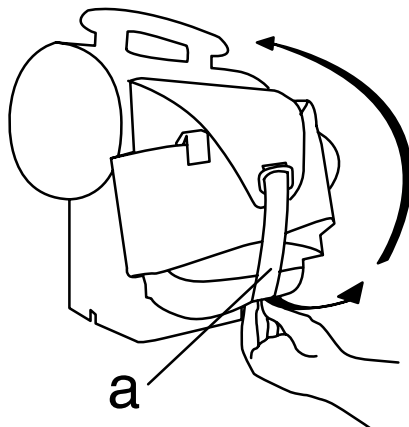

FIG. 8
5. Detach the Velcro® strap (a) from the base of the waistbelt and lift the strap (Figure 8).